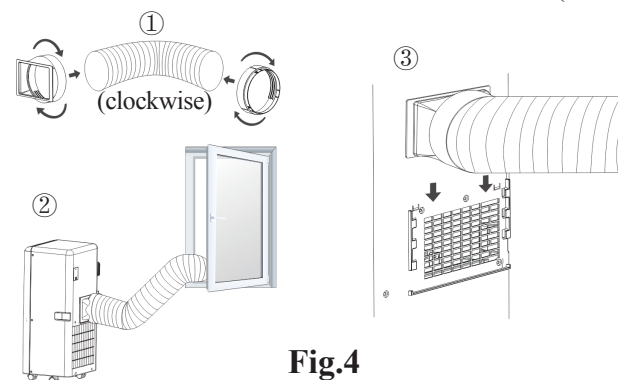

Fig.4
3. Put the other end of the exhaust hose to the near windowsill (see Fig.4).